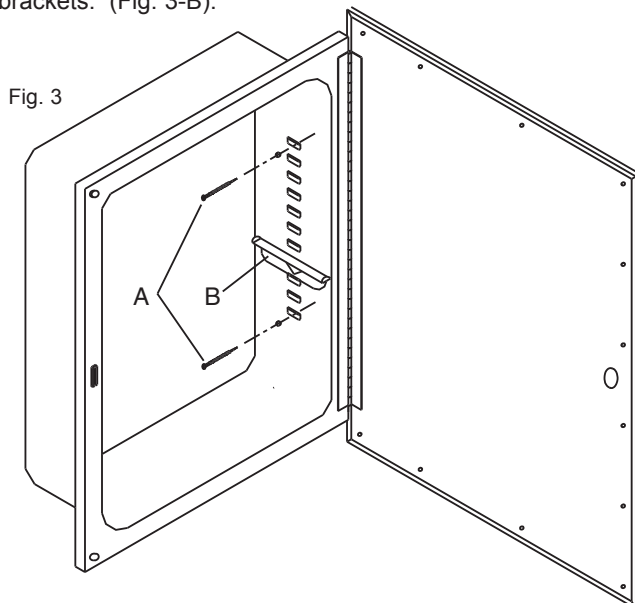

Fig. 3
4. Insert cabinet into wall opening in plumb and centered position. Use a carpenter's level and shim corners of cabinet if necessary. Secure to wall studs through the 4 mounting holes inside cabinet (screws provided) (Fig. 3-A).
5. Place shelf brackets at desired heights. Place shelves on brackets. (Fig. 3-B).